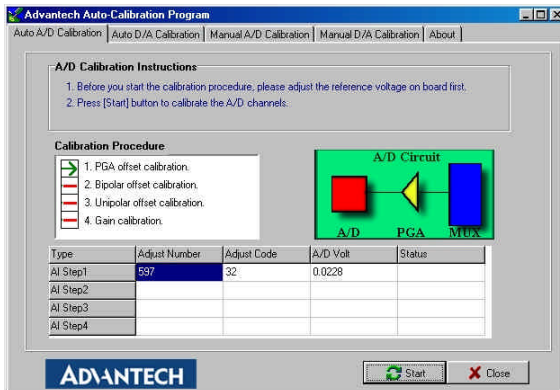

Fig. 5-5: A/D Calibration Procedure 1
Step 5: The first A/D calibration procedure is enabled (Fig. 5-5).